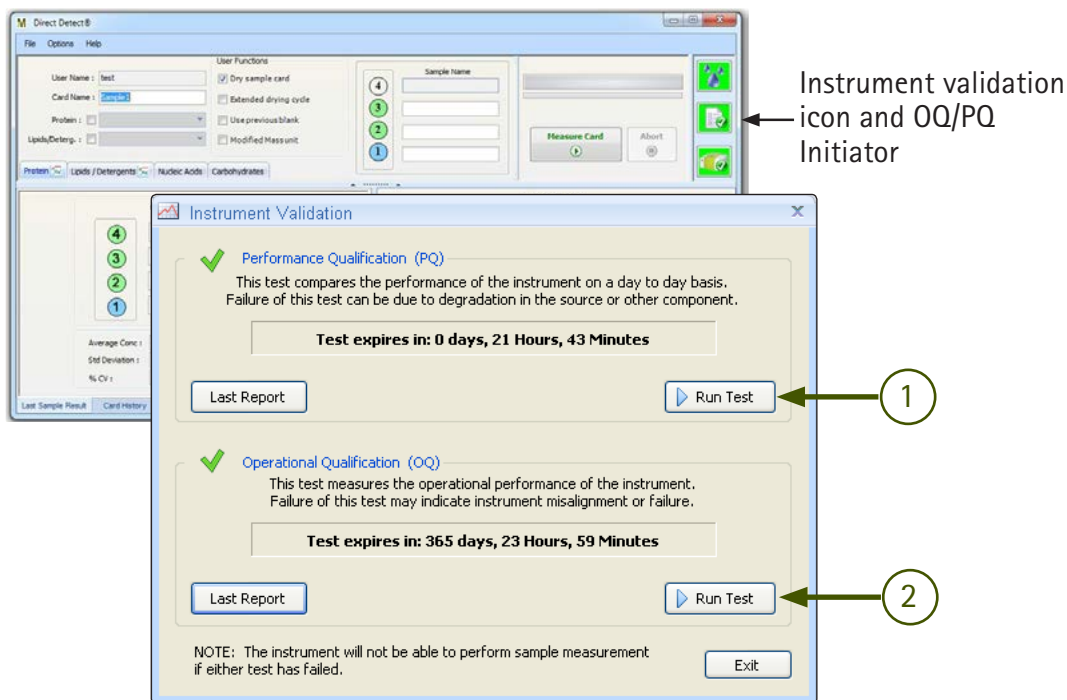

Figure 41. Running OQ/PQ tests
3. When the instrument validation dialog appears, click on the Performance Qualification (PQ) Run Test button (1 in Figure 41). The test takes about 5 minutes.